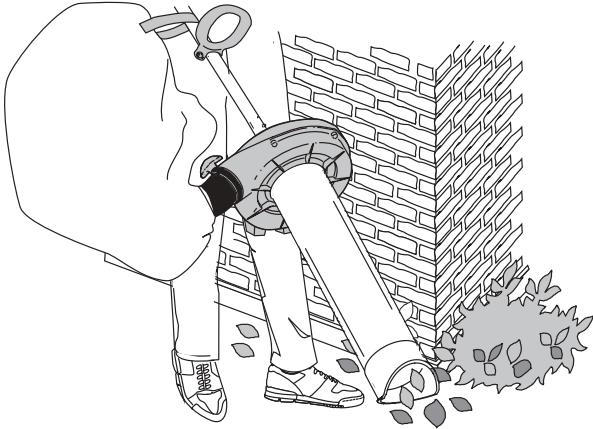

Fig. 8
1. The vacuum can be used for cleaning around rocks, under shrubs and trees, along walls, or vacuuming piles of debris formed by blower (Fig. 8).